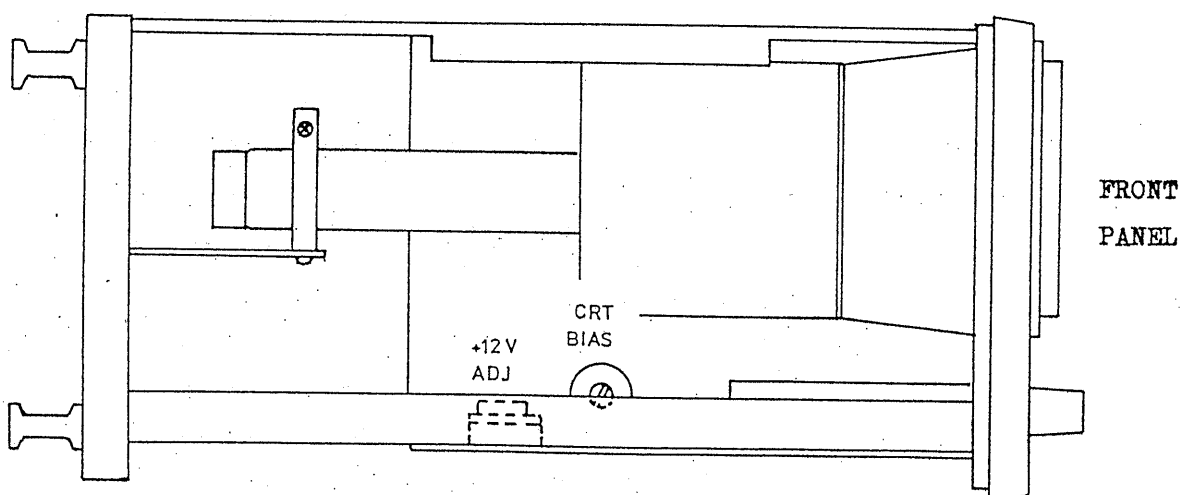

Fig. 24
- (1) Set the TIME/DIV switch in the 1 msec position and display the trace on the CRT screen.
- (2) Set the white mark of the INTEN knob in the upright (noon high) position and so adjust the CRT BIAS control (see Fig. 24) that the trace is displayed on the screen with a barely discernible intensity.